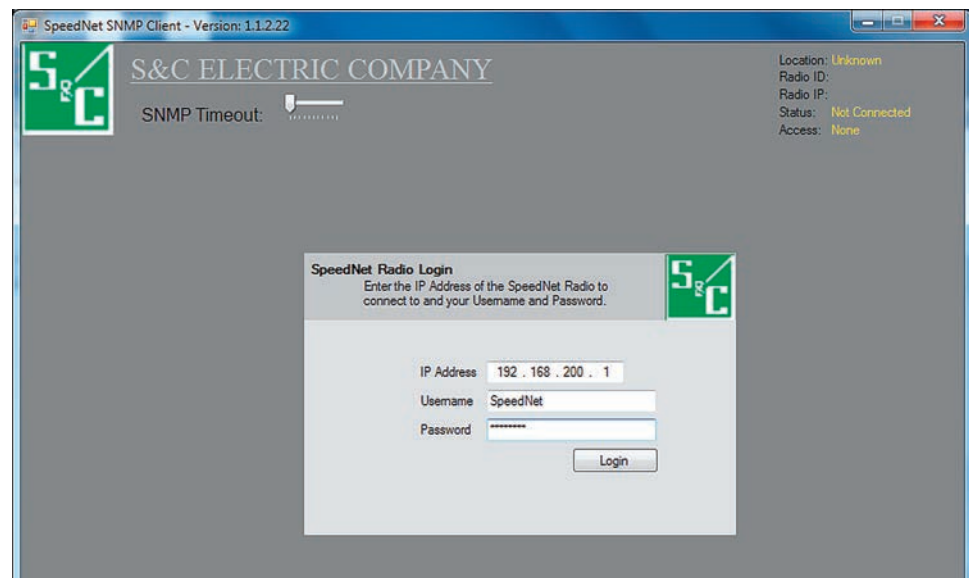

Figure 11. SpeedNet Radio login dialog box.
STEP 6. Access Radio #20 with the Client Tool. See Figure 11. Open the Client Tool and enter: